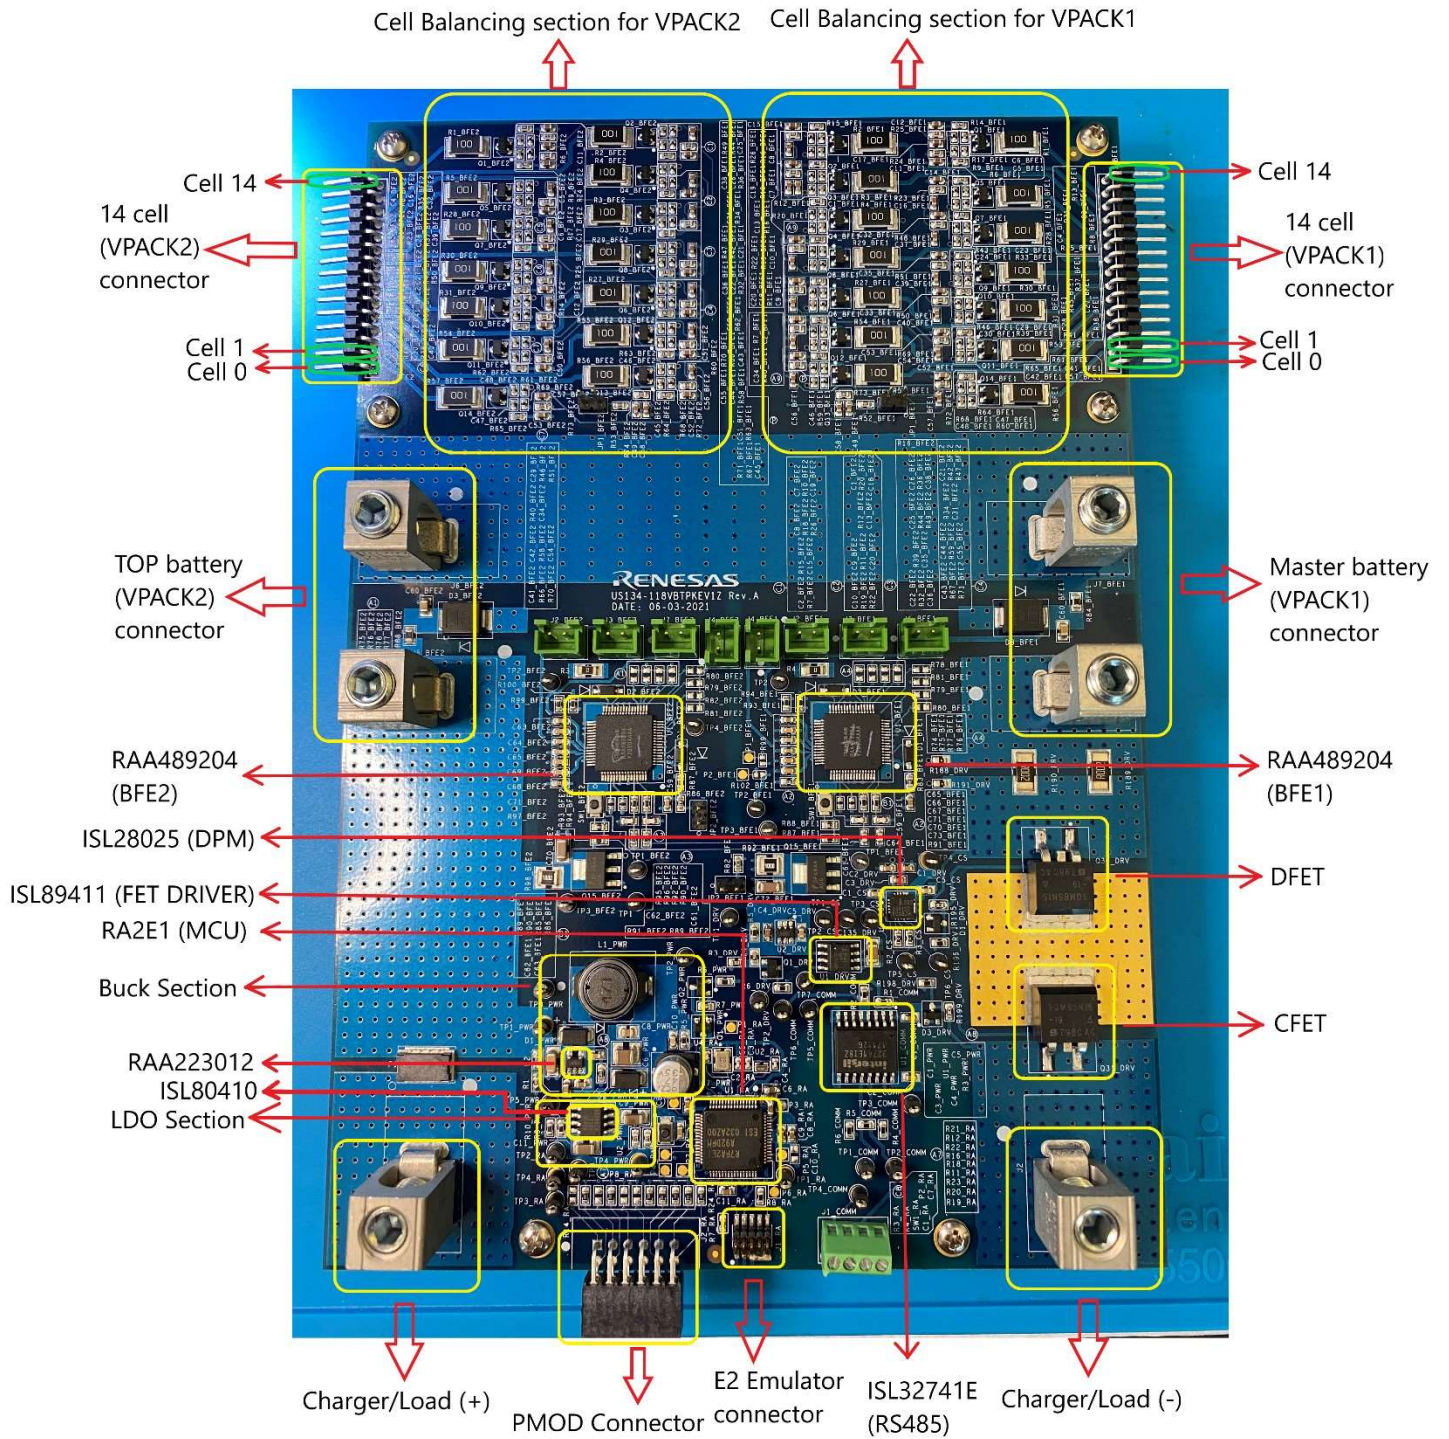

Figure 4. US134-118VBTPKEV1Z Board Overview
The board is designed to accommodate **two 14-cell** battery packs by default. These battery packs are connected in series when plugged into the POC board creating a high voltage system. The connectors for the battery cells, along with the connectors for the main power (VPACK1/2) are shown in Figure 4 below. BFE1 is referenced as the MASTER and BFE2 is referenced as the TOP device. BFE1 monitors the battery pack connected to VPACK1, along with the cell connections and BFE2 monitors the battery pack connected to VPACK2 (and the respective cell connections). These two BFEs are connected in a daisy chain configuration which allows battery monitoring and maintenance of the series-connected battery packs.
10. Connect to J1_RA on the US134-118VBTPKEV1Z POC board. See Figure 4 for the debugger location.
9. Connect VPACK1 cell sense lines to J1_BFE1 and, then connect VPACK2 cell sense lines to J1_BFE2. Ensure the cells are correctly connected to the corresponding sense lines. See Figure 4.